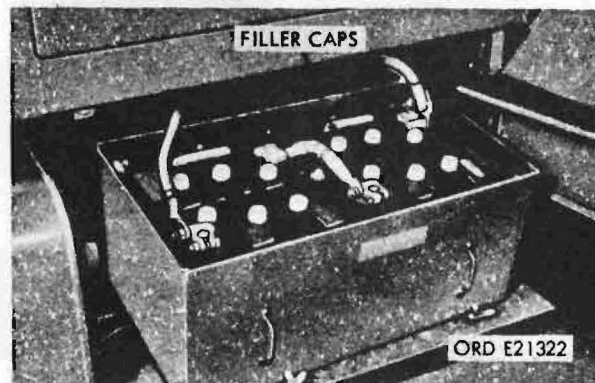

Figure 52. Battery filler caps
(37) Battery filler caps (fig. 52). The battery filler caps, located on the batteries, are removed to check or add electrolyte, then replaced.